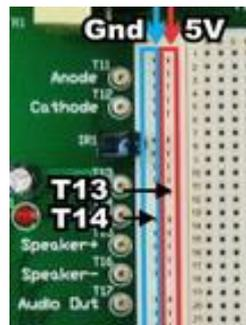

Figure 2 – Connections of T13 and T14 on the Breadboard
6. Connect **T13** and **T14** to the extended **5 V** and **Gnd** on the breadboard respectively. This is shown in Figure 2. These connections allow you to control the music playback using the push buttons **PB1**, **PB2**, **PB3**, and **PB4** on the ME3100 Analog Circuit Design kit.